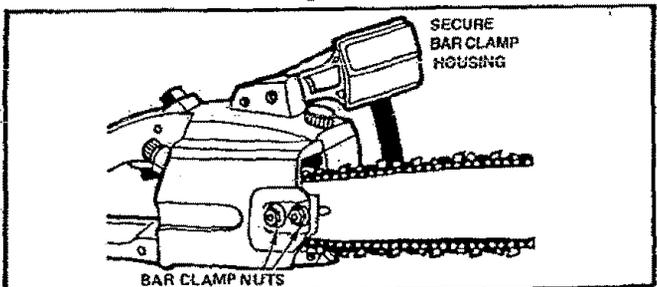

Figure 12
7. Hold the Guide Bar against the saw frame and install the Bar Clamp Housing. Figure 12.